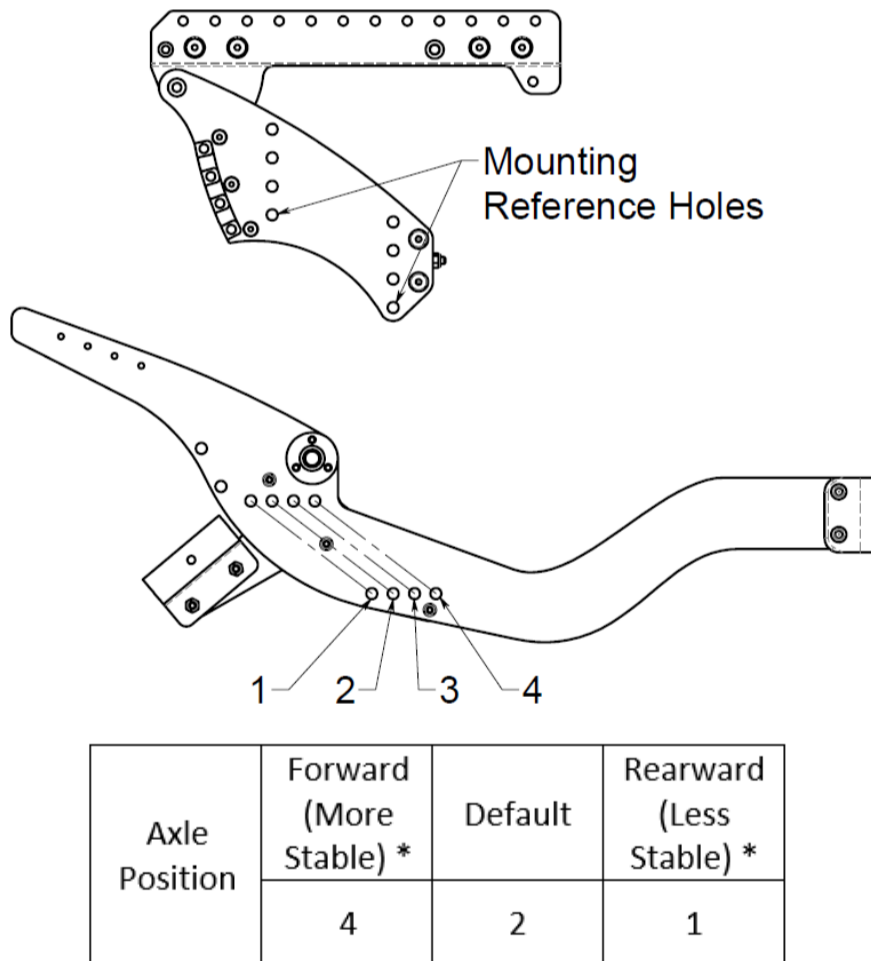

Figure 16.31: Adjusting the Front Axle Position on a Bentley LT-R
4. Reposition the sub frame onto the lower frame. There are multiple axle positions options for each chair. Refer to Figure 16.31. Ensure that the seat height positions are also maintained or moved to a suitable option (see Table 16.2). Once the holes on the sub frame and lower frame are aligned, insert the lower seat height bolt on each side of the frame. This will help with the alignment of the frames. Then refit the upper seat height bolt.